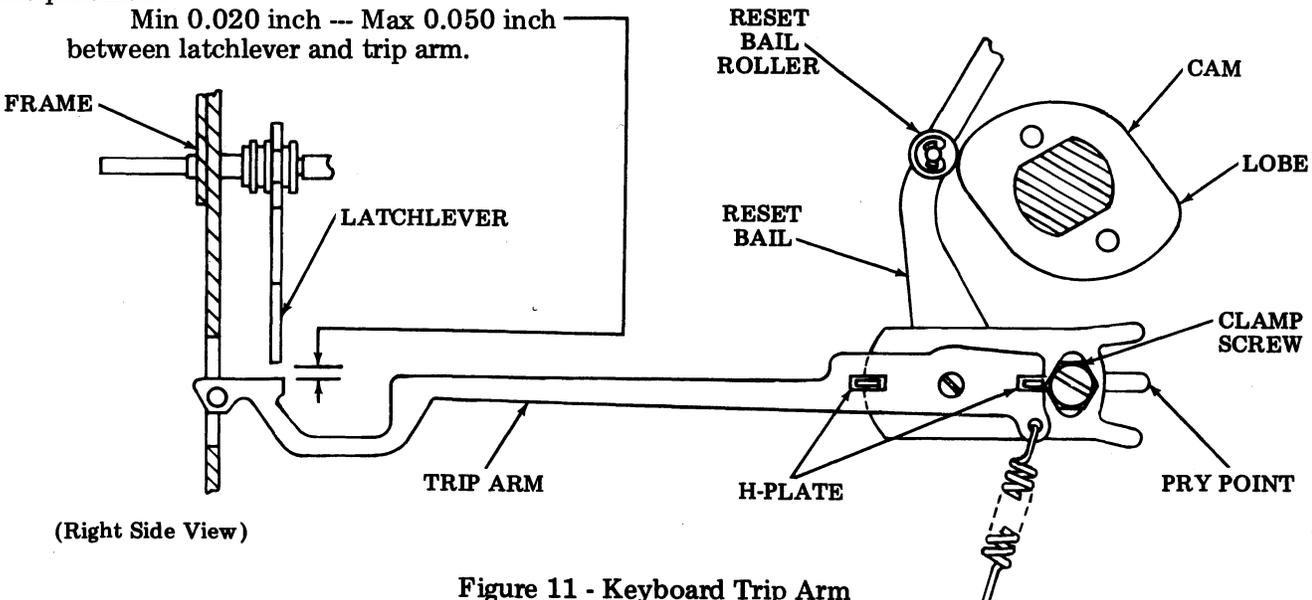

Figure 11 - Keyboard Trip Arm
4.07 **Keyboard Trip Arm:** Due to movement during shipment, the keyboard trip arm may become out of adjustment; an indication of this is when the keyboard double trips. If adjustment is necessary, refer to the keyboard trip arm as shown in Figure 11.